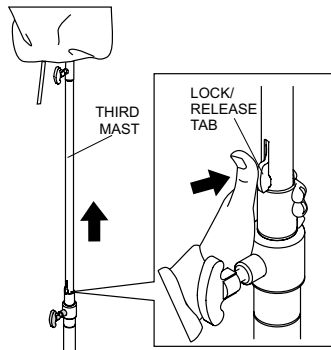

Figure 21. Lowering Third Mast
2. Push the lock/release tab on the third mast to release it and lower third mast. See Figure 21.